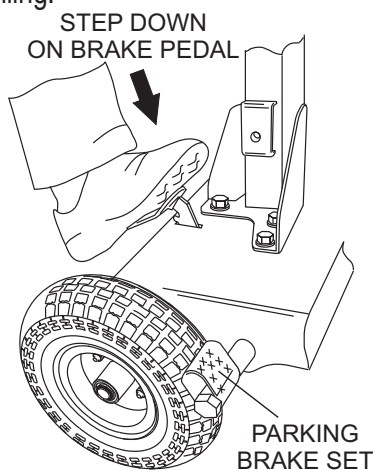

Figure 7. Parking Brake (Set Position)
2. To apply the parking brake (Figure 7), step on the brake pedal and pull back on the T-handle. This will lock the rear wheels. For additional safety use chock blocks to prevent rolling.